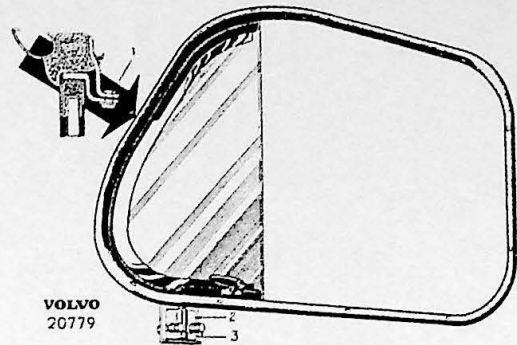

Fig. 25.
Remove the rivet (1, Fig. 25) which holds the upper side of the ventilation window to the window frame. Loosen both the tension screws (3) and remove the lower cap (2). Lift out the window and the rubber weatherstrip is then accessible for replacement.